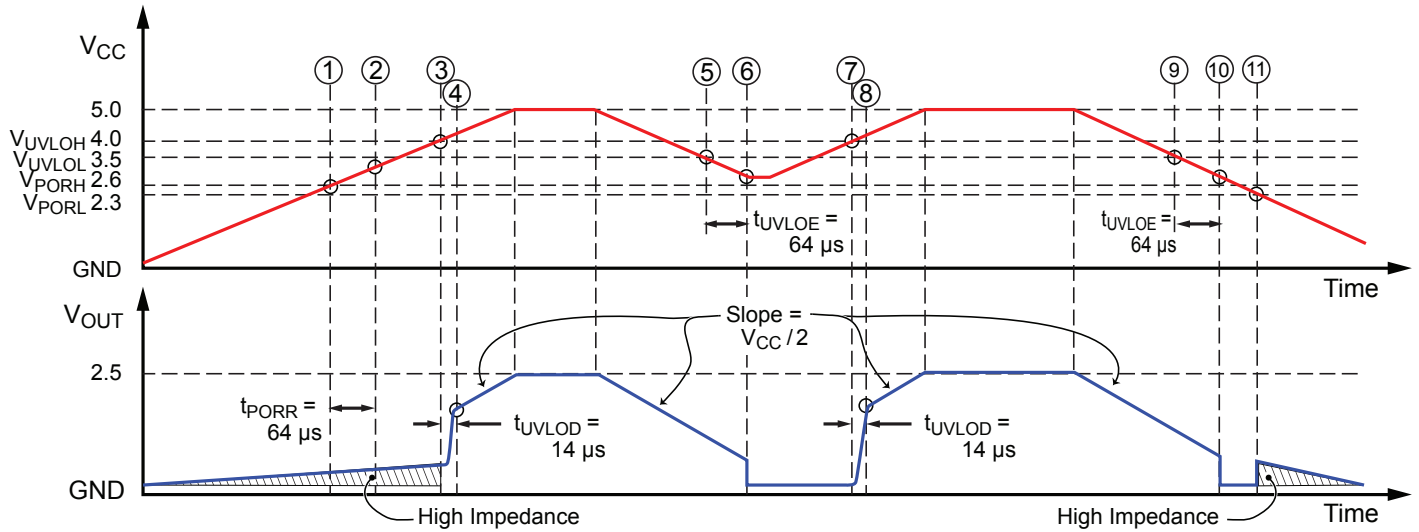

Figure 4: POR and UVLO Operation: Slow Rise Time case
• **Power-Up** At power-up, as  $V_{CC}$  ramps up, the output is in a high impedance state. When  $V_{CC}$  crosses  $V_{PORH}$  (location [1] in Figure 4 and [1'] in Figure 5), the POR Release counter starts counting for  $t_{PORR} = 64 \mu s$ . At this point, if  $V_{CC}$  exceeds  $V_{UVLOH} = 4 V$  [2'], the output will go to  $V_{CC} / 2$  after  $t_{UVLOD} = 14 \mu s$  [3']. If  $V_{CC}$  does not exceed  $V_{UVLOH} = 4 V$  [2], the output will stay in the high impedance state until  $V_{CC}$  reaches  $V_{UVLOH} = 4 V$  [3] and then will go to  $V_{CC} / 2$  after  $t_{UVLOD} = 14 \mu s$  [4].